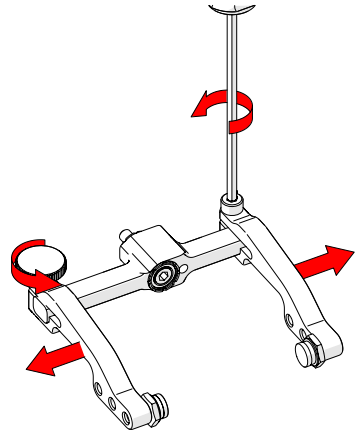

Fig. 117 - Remove probe holder arms
3. Loosen the probe holder arm adjustment knob and the arm clamp screw. Slide the probe holder arms off the yoke (Fig. 117).